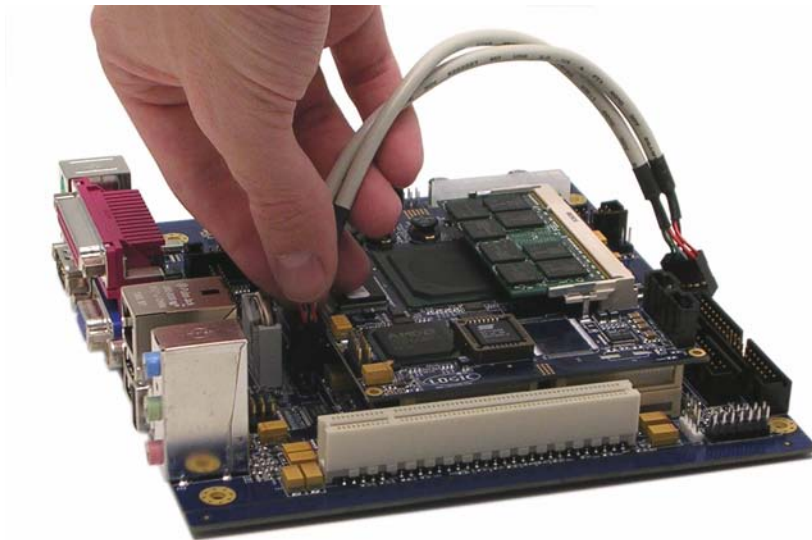

Figure 3.4 – Mini-ITX Baseboard
- 1) Connect one end of the USB interconnect cable to the Mini-ITX baseboard (see Figure 3.4).